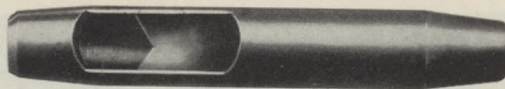

Fig. 52
12. Take one of the three eyelet punches (Fig. 52)—according to desired size of eyelet—place it on garment over tailors' chalk mark and hit with heavy object to cut through cloth.